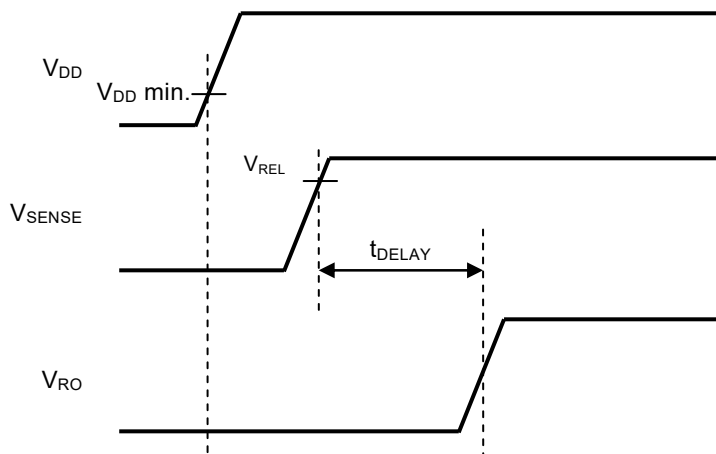

Figure 25
- (1) Order of VDD pin and SENSE pin (Refer to **Figure 25**)
- (2) VDD pin and SENSE pin at the same time